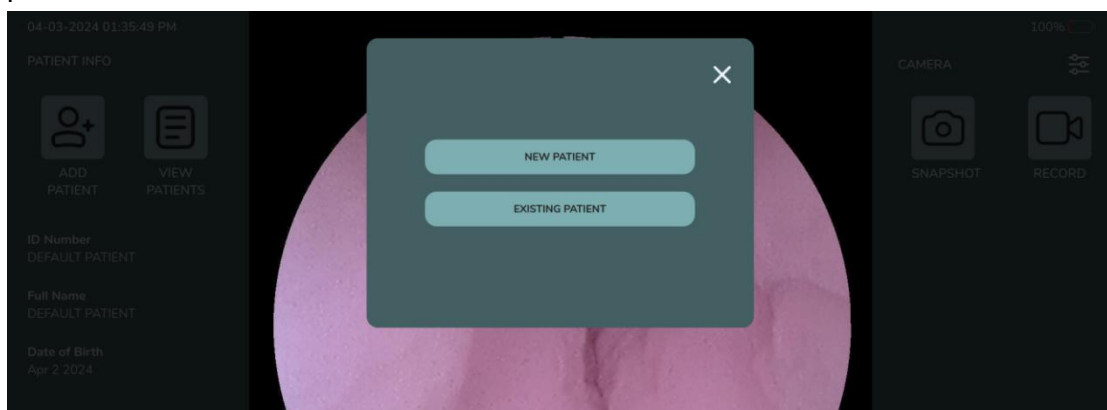

Figure 10 The Add Patient window
- Basic method: if the quick menu is not displayed on the screen, tap anywhere on the screen to show the Home screen, then press the Add Patient icon  on the upper left corner and you will see a small window popping out. As illustrated in Figure 10 below, tap New Patient button to create a new patient account and input the patient ID, patient name, and DOB (Date of Birth). Alternatively, tap Existing Patient to select an existing patient record from the database.